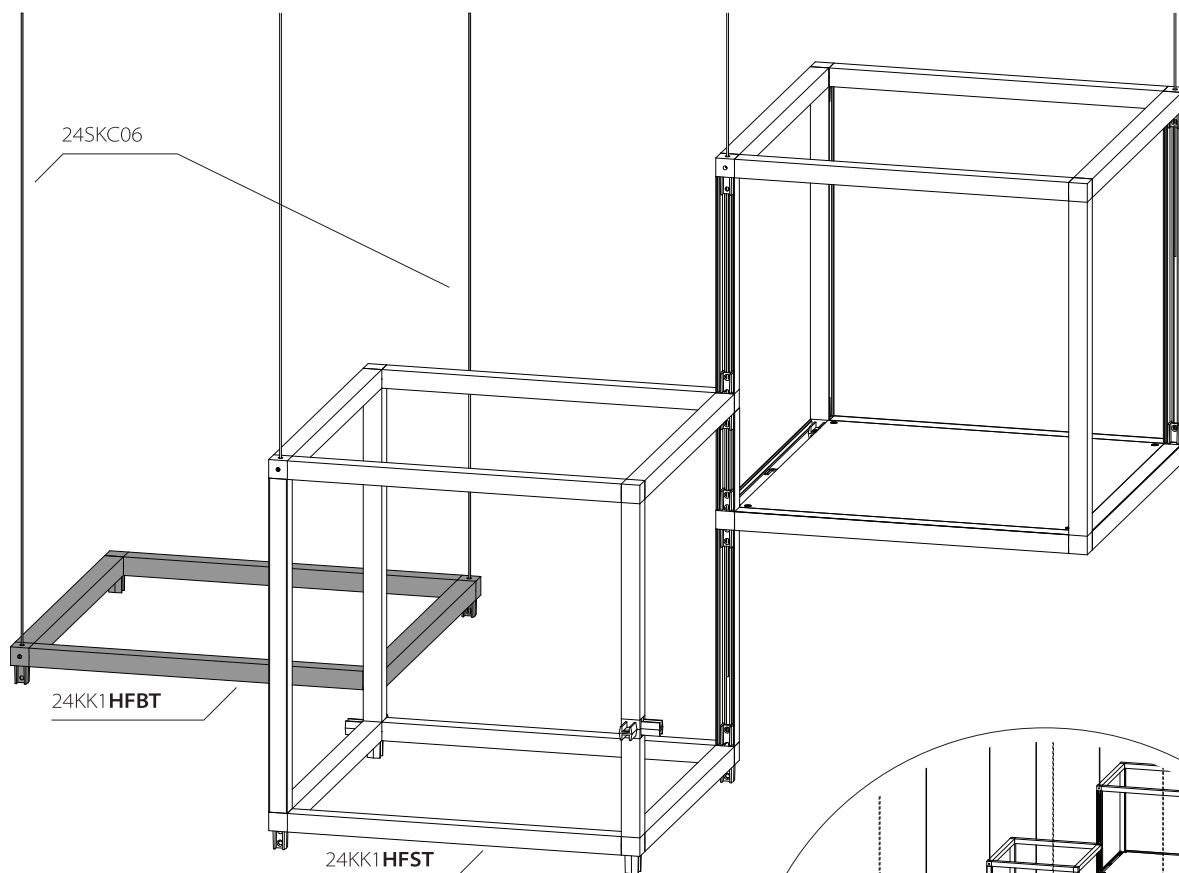

Fig. 6a
- 4a. Install 24KK1HFBT to 24KK1HFST in the orientation shown in Fig. 6a.